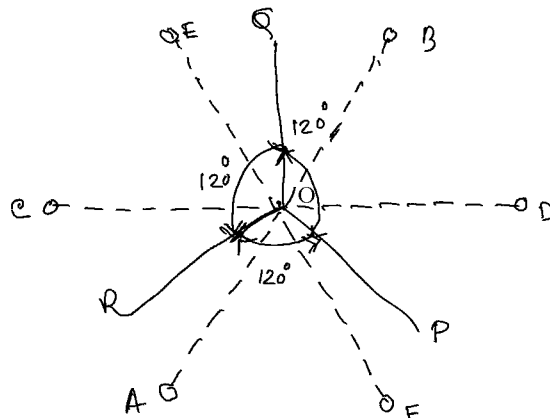

Fig 5.2
b) Three phase supply: Three identical coils AB, CD and EF are arranged 120° apart, as shown in the figure 5.2. The magnetic field produced at the centre O by the coils AB, CD and EF are directed along OP, OQ and OR respectively. Then